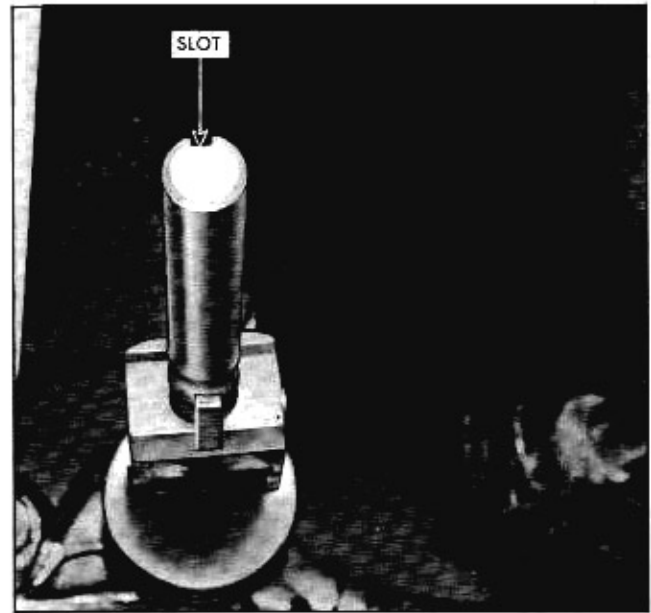

Fig. 7-9 Control Rod Coupling Slot
NOTE: Slot in control rod coupling should be in up position (Fig. 7-9).
4. Slide control rod on control rod coupling, with control rod finger (Fig. 7-10) in coupling slot (Fig. 7-9).